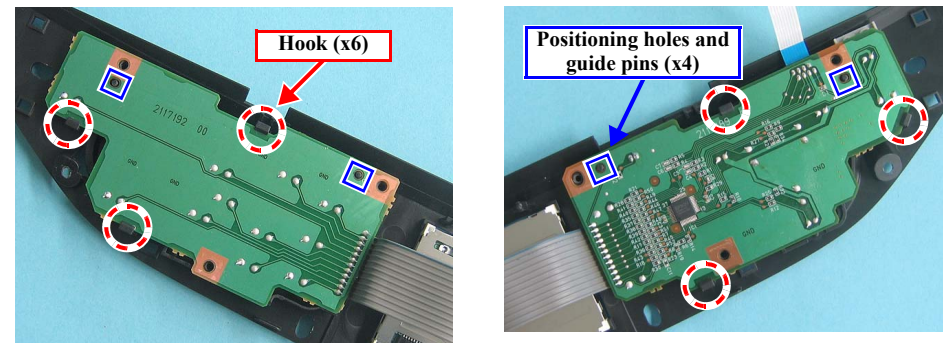

Figure 4-8. Removing the Panel Board
3. Release the hooks (x6), and remove the Panel Board. (Fig. 4-8)
- When installing the Panel Board, match the positioning holes with the guide pins (x4). (Fig. 4-8)